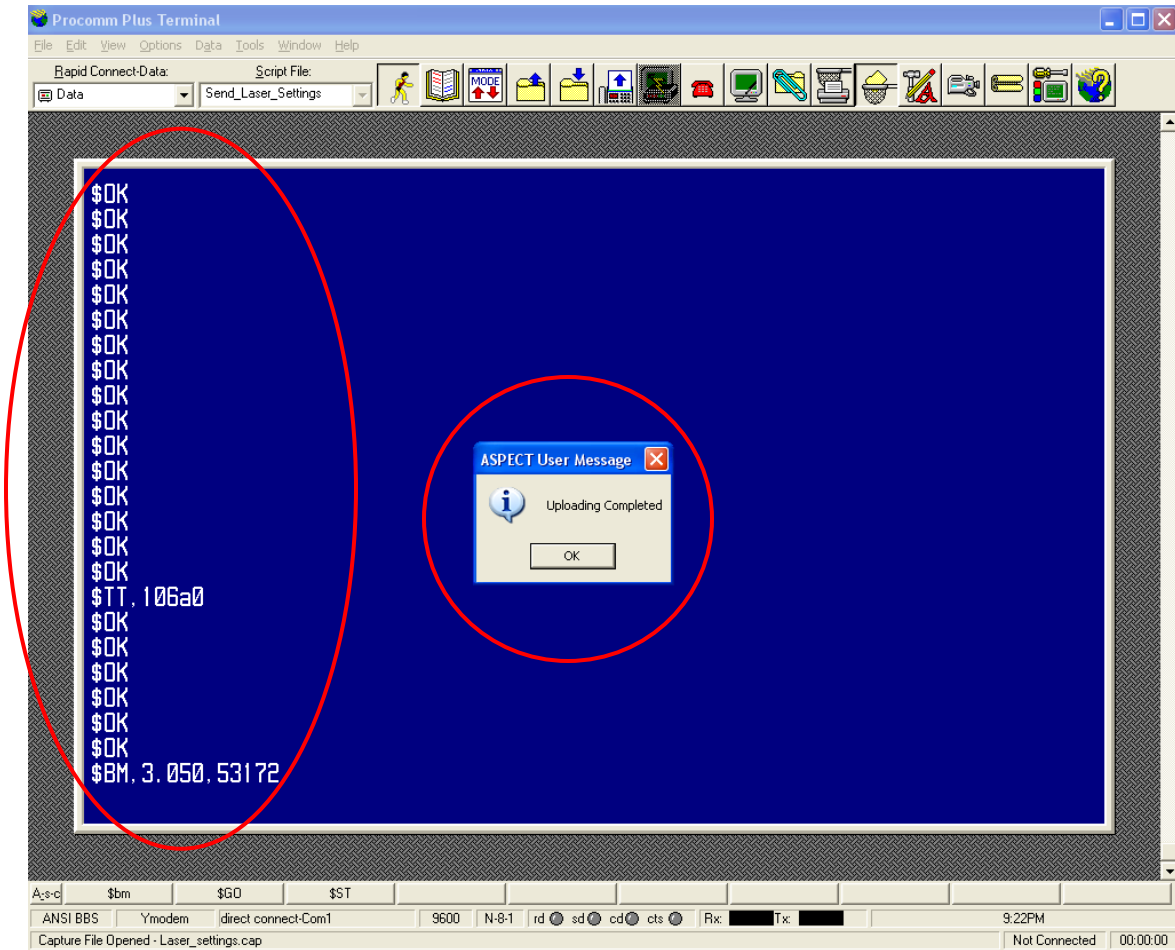

Figure 33
9. A new user message will appear when all settings have been sent to the sensor. Click **OK** to close the **Capture file** and end the script (fig. 33).
1. Connect the computer to the sensor via a RS232 cable. Start Procomm and set the system to use Direct Connect COM 1 (bottom left of screen) using a baud rate of 115200, 8 bits, no parity, and 1 stop bit as shown in fig. 33. If your computer does not have a serial port, select the correct COM port in Procomm for the USB port that has the serial adapter.